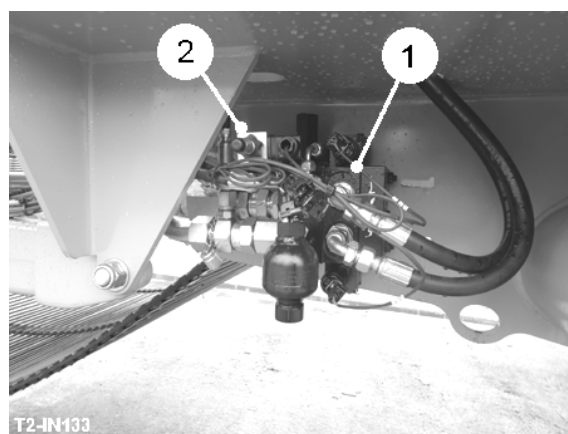

Fig 22
The axle drive can be set to forward , neutral or reverse  from the yellow rocker switch on the slave box or from the touch-screen. When forward or reverse is selected, the directional control valve (item 1, fig. 22) mounted under the LH side of the machine, demands oil flow from the pump to provide the necessary flow required to match the harvester wheel speed to the tractor speed. When the flow matches, the pressure compensator within the pump maintains a constant pressure in the hydraulic system which is set on the external pressure control valve (item 2, fig. 22) from the touch-screen terminal. This valve allows a low operating pressure to be set which is adjustable to give the required drive assistance for normal harvesting. Forward speed can be matched to the tractor by using the speed adjust on the service terminal. When the high pressure button  is pressed, the system operating pressure is increased to the setting of the main compensator within the pump.